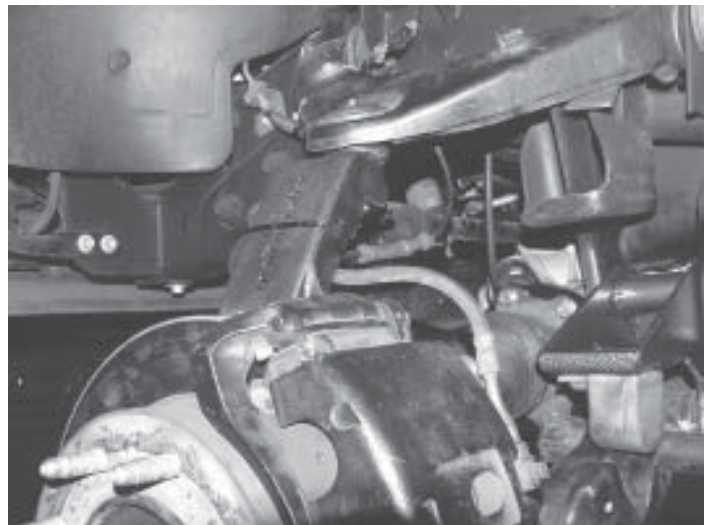

Fig. 16
- C. Position the brake lines and sensor wires so that they do not rub or get pinched during suspension and steering travel and secure using the tie wraps supplied. **Fig. 16**